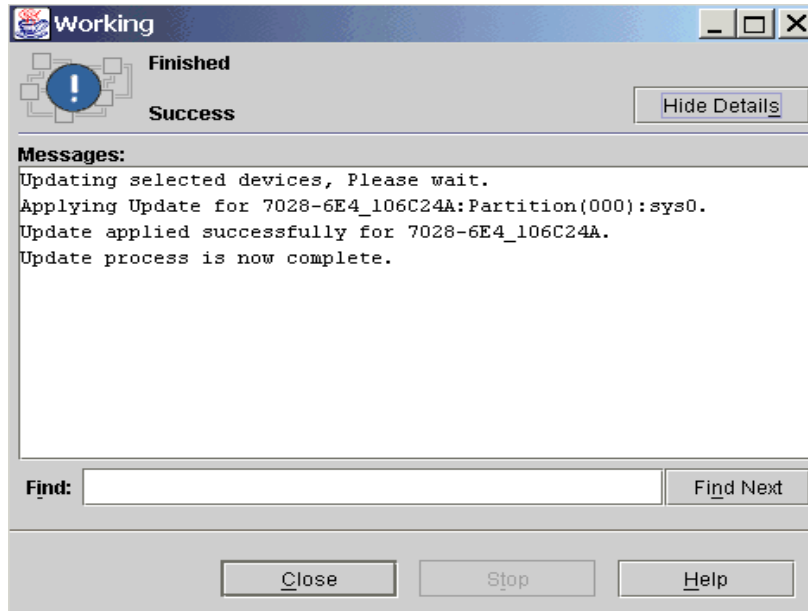

Figure 5-25 Microcode Updates completed
8. When the microcode update is completed, a window appears as shown in Figure 5-25. The system will automatically reboot if required.